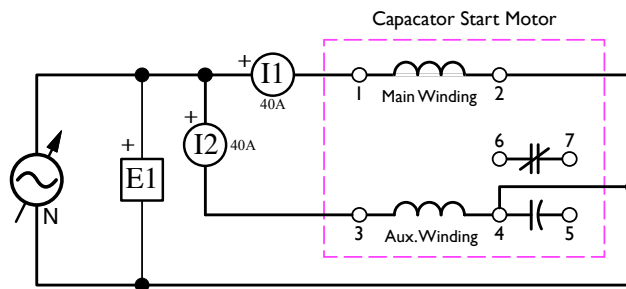

Figure 4.17: Capacitor Start Motor – Main and Auxiliary Winding
- 38. **Turn off the power supply** and set the voltage control knob to zero. Connect the auxiliary winding of the Capacitor-Start Motor as shown in Figure 4.17.